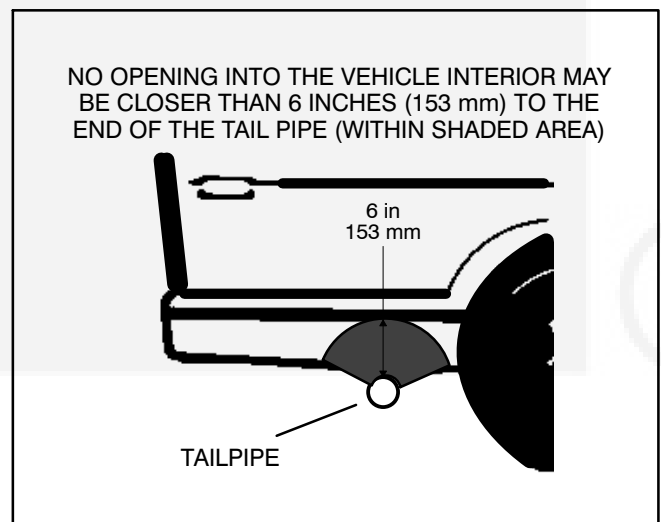
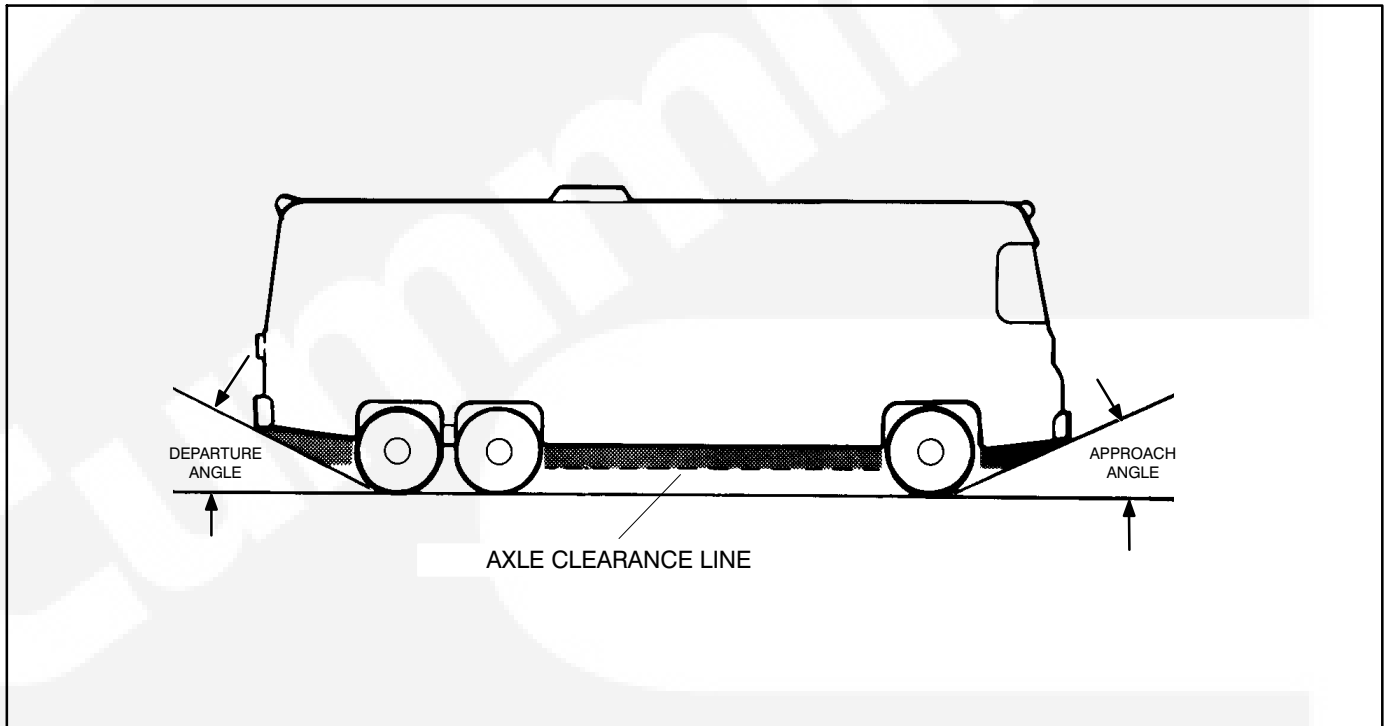

FIGURE 7. MINIMUM DISTANCES TO OPENINGS
FIGURE 8. APPROACH AND DEPARTURE ANGLES AND AXLE CLEARANCE LINE
⚠ WARNING *EXHAUST GAS IS DEADLY! To keep exhaust gases from entering the vehicle do not terminate the exhaust tailpipe underneath the vehicle or closer than specified to openings into the vehicle (Figure 7) or route it such that it is likely to be damaged (Figure 8). Use approved materials and parts only.*
9. Do not terminate the tailpipe such that it is closer than 6 inches (153 mm) to any opening into the vehicle interior (door, window, vent). See Figure 7.
angles of the vehicle and above the axle clearance line (Figure 8).